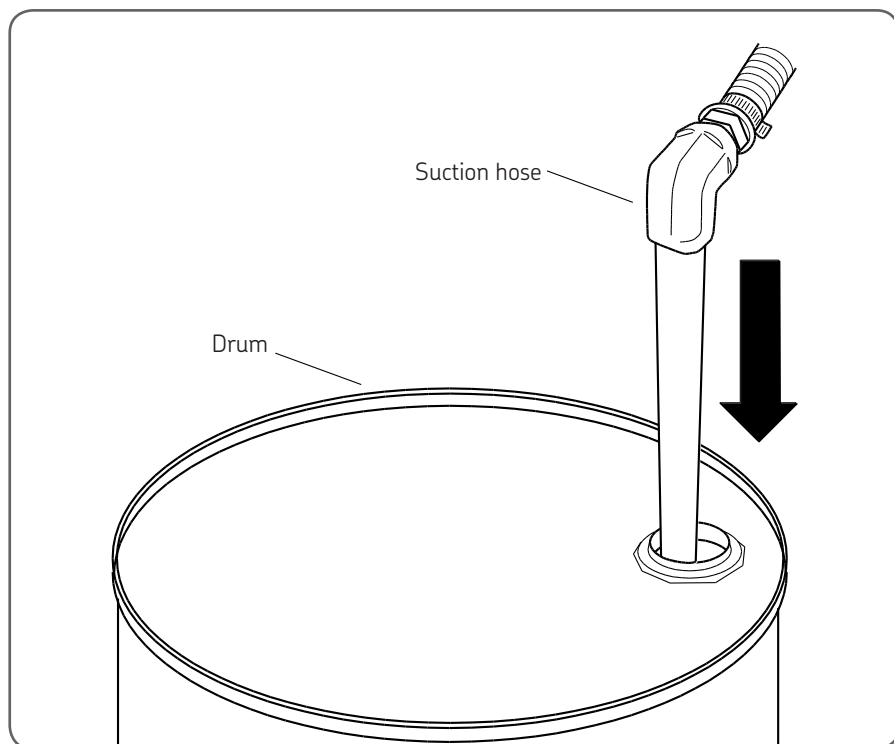

Fig 12 Place suction tube
2. Place the tube-end of the suction hose assembly into the oil drum or container (208 litre/55 US gal drum). See figure 12.